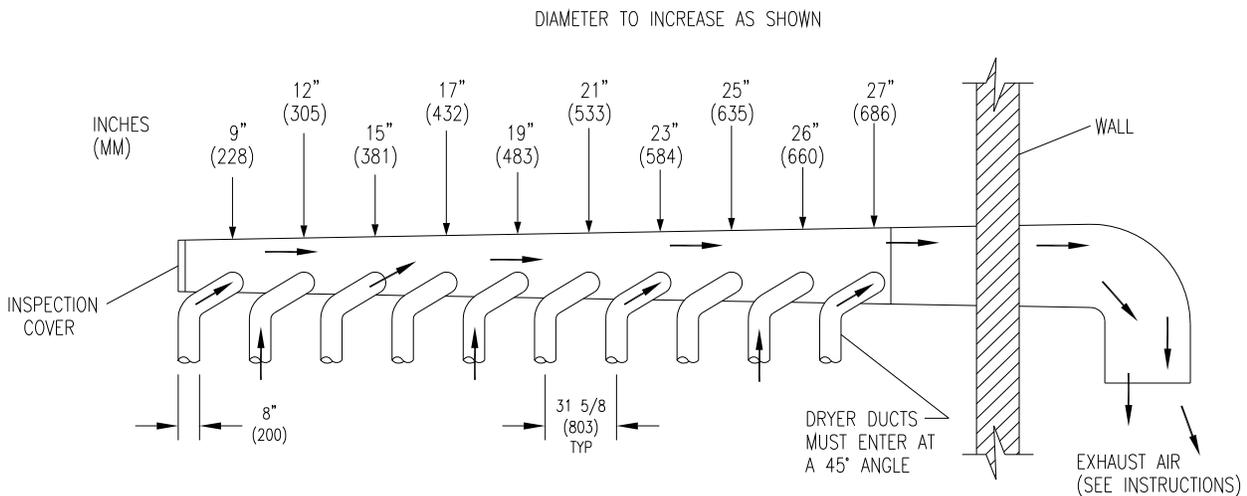

FIGURE 2- Dryer Exhausting Using A Main Discharge Duct.
6. EXHAUST INSTALLATION. (Refer to Figure 2 at the end of section 6.) Exhausting of the dryer(s) should be planned and constructed so that no air restrictions occur. Any restriction due to pipe size or type of installation can cause slow drying time, excessive heat, and lint in the room.
Installation of several dryers, where a main discharge duct is necessary, will need the following considerations for installation (see Figure 2). Individual ducts from the dryers into the main discharge duct should be at a 45-degree angle in the direction of discharge airflow.
NOTE: Never install the individual ducts at a right angle into the main discharge duct. The individual ducts from the dryers can enter at the sides or bottom of the main discharge duct. Figure 2 indicates the various round main duct diameters to use with the individual dryer ducts. The main duct can be rectangular or round, provided adequate airflow is maintained. For each individual dryer, the total exhausting (main discharge duct plus duct outlet from the dryer) should not exceed the equivalent of 20' (6 m) and two elbows. The diameter of the main discharge duct, at the last dryer, must be maintained to exhaust end.